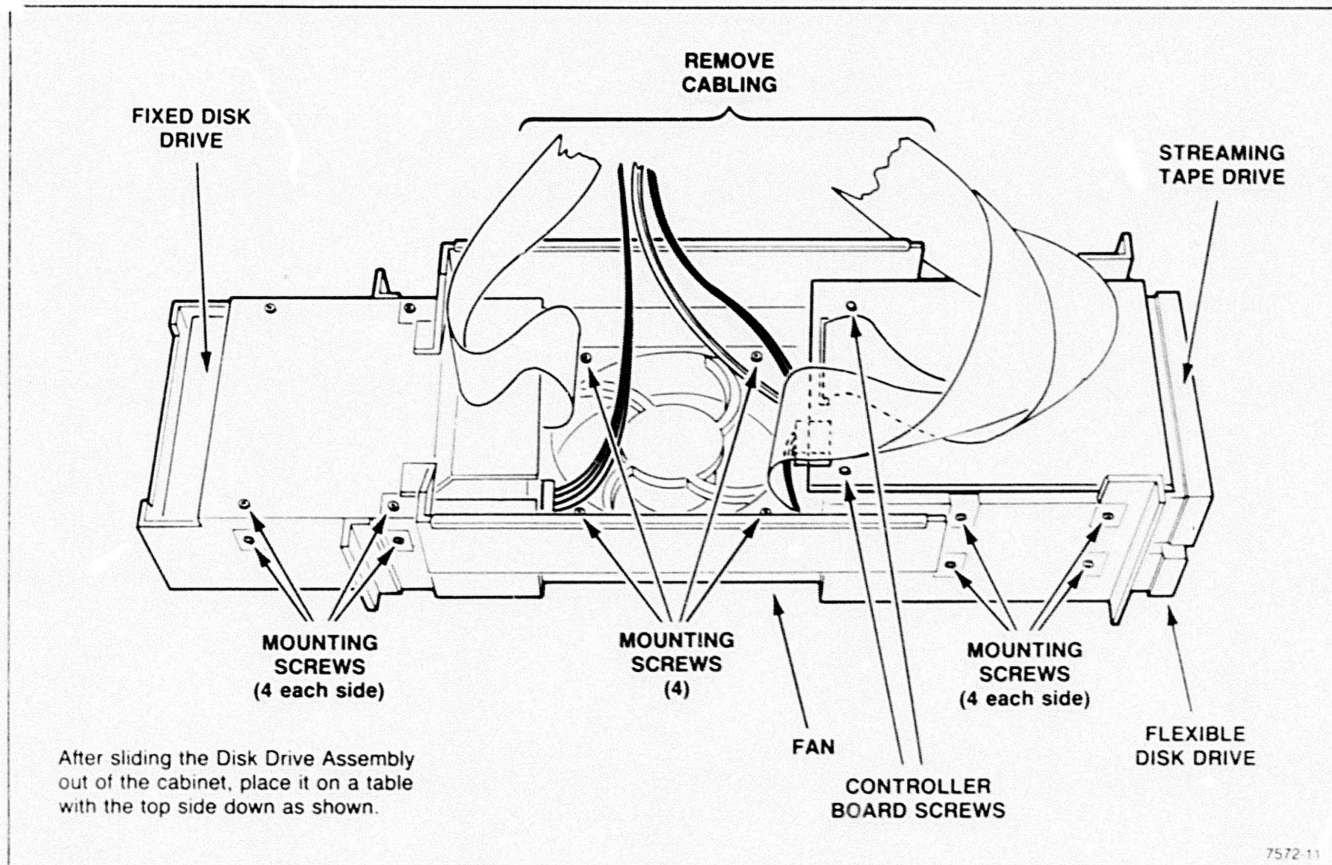

Figure 5-5. Removing Magnetic Peripherals.
8. To remove a magnetic peripheral from the subassembly, turn the subassembly over and remove the four holding screws, two on each side of the housing (see Figure 5-5).